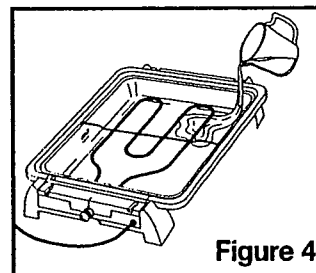

Figure 4
2. Add water to the bottom of the Grease Pan. This will make clean-up easier, reduce smoke, and prevent overheating of plastic parts. Carefully pour water into the Grease Pan being careful not to pour water onto any part of the Heater Assembly or Heating Element. **Do not exceed the "MAX" marking on the inside of the Grease Pan.** See Figure 4.